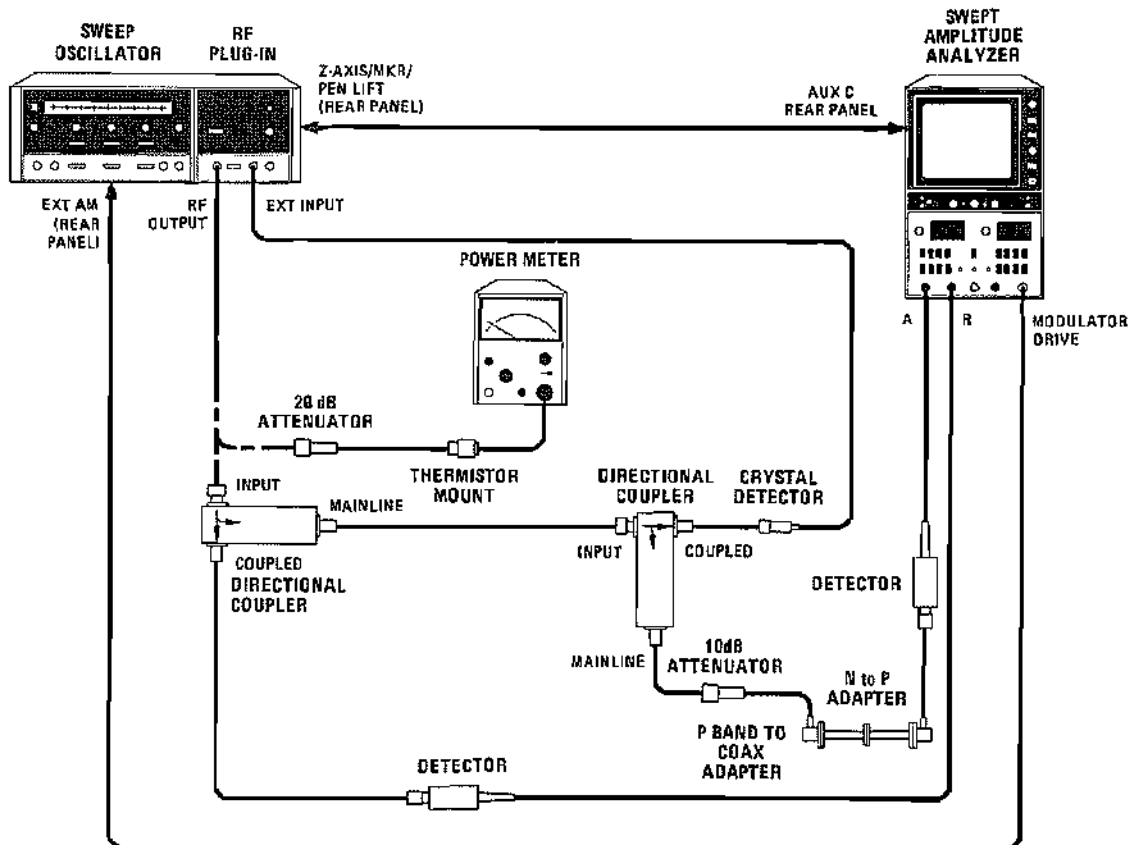

Figure 5-11. Harmonics and Amplifier Bias Adjustment Test Setup
- a. Connect equipment as shown in Figure 5-11 with power meter connected to RF OUTPUT (through 20 dB attenuator).
- d. Disconnect 20 dB attenuator/thermistor mount from RF OUTPUT port and connect directional couplers as shown in Figure 5-11.